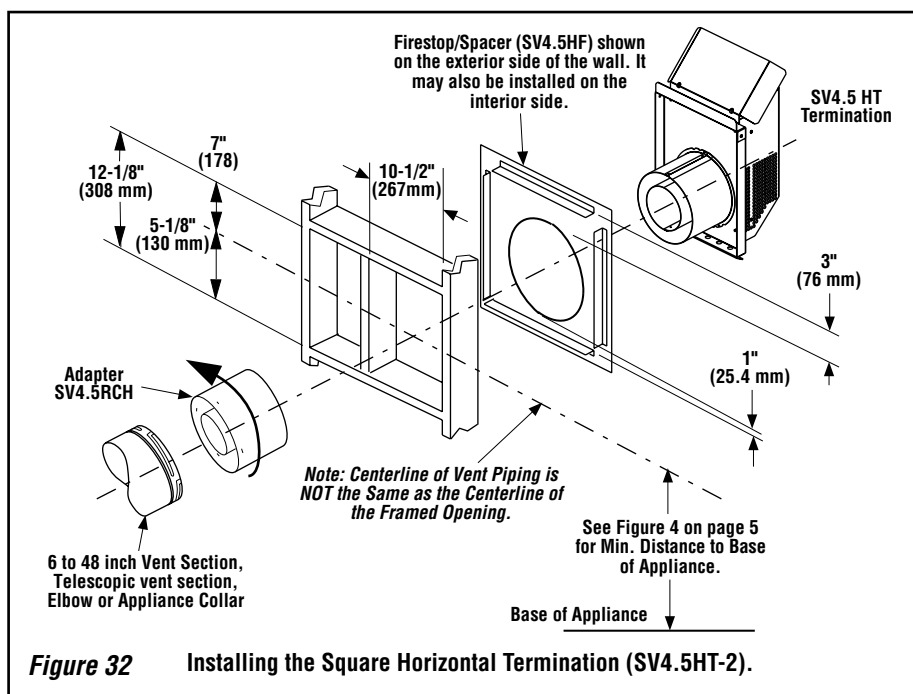

Figure 32 Installing the Square Horizontal Termination (SV4.5HT-2).
K. Attach termination adapter - Attach the adapter (adapter - SV4.5RCH - provided with the termination) to the vent section or telescoping vent section, elbow or appliance collar as shown in **Figure 32** in the same manner as any SV4.5 vent component (refer to **Step E**).
L. Install Firestop/Spacer at exterior wall - When using the **square** termination, install SV4.5HF (Secure Vent), SF4.5HF (Secure Flex) Firestop/Spacer over the opening at the exterior side of the framing, long side up, with the 3 inch spacer clearance at the top as shown in **Figure 32**, and nail into place. (The Firestop/Spacer may also be installed over the opening at the interior side of the framing).